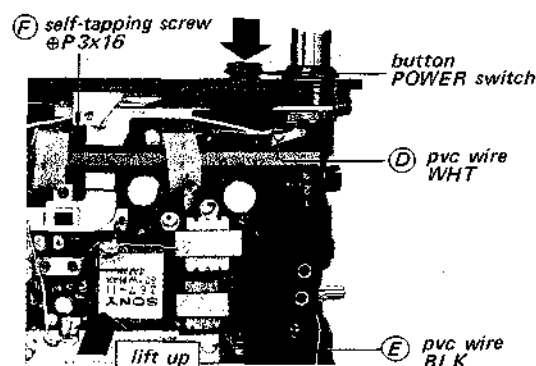

Fig. 2-4.
2. Push the POWER switch button as shown in Fig. 2-4.
3. Unsolder the pvc wires labeled (D) and (E) in Fig. 2-4.
4. Remove the screw labeled (F) in Fig. 2-4.